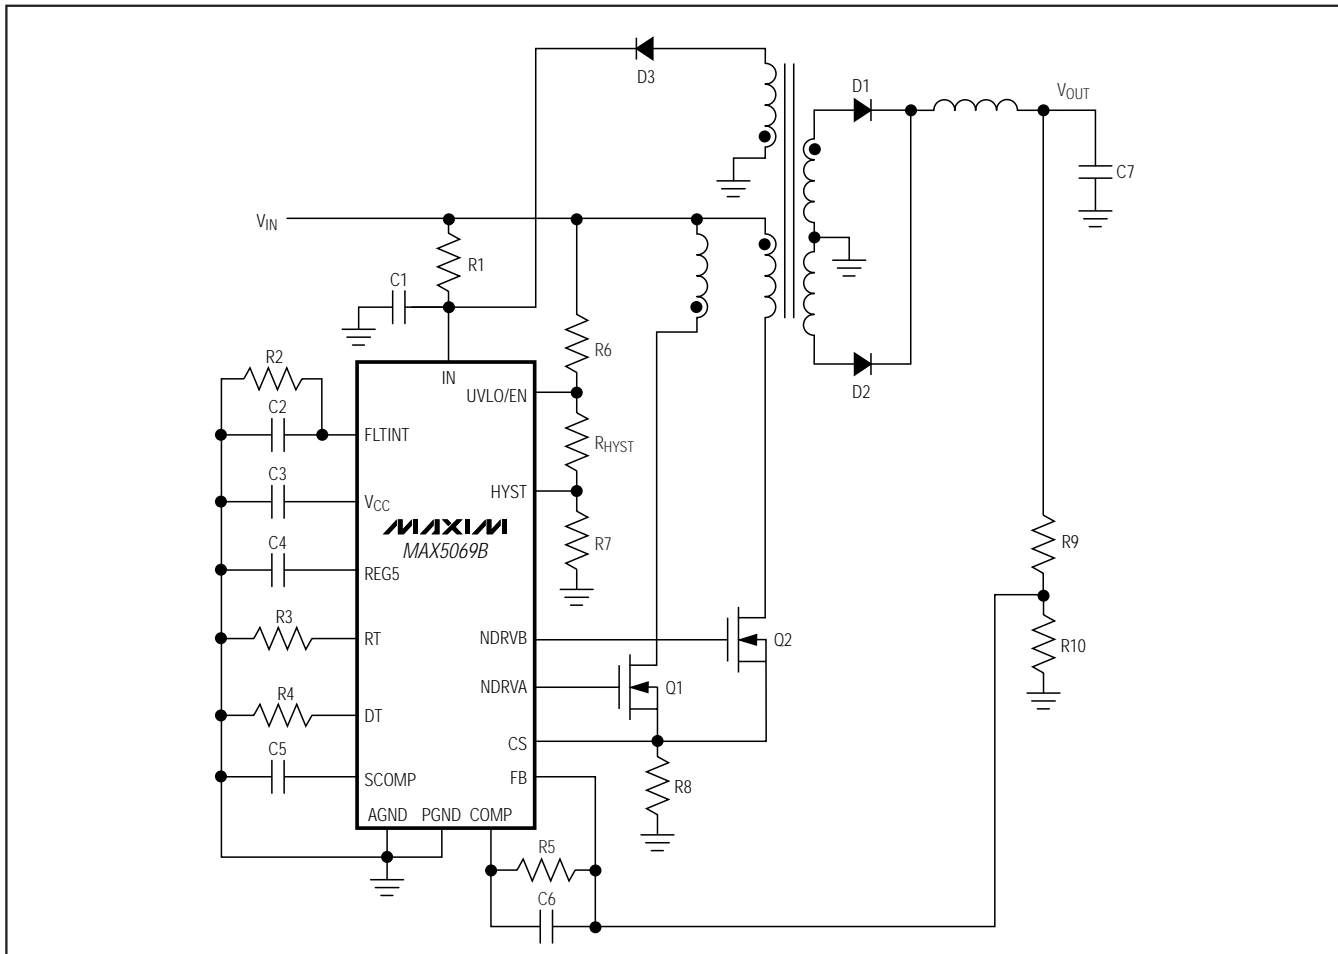
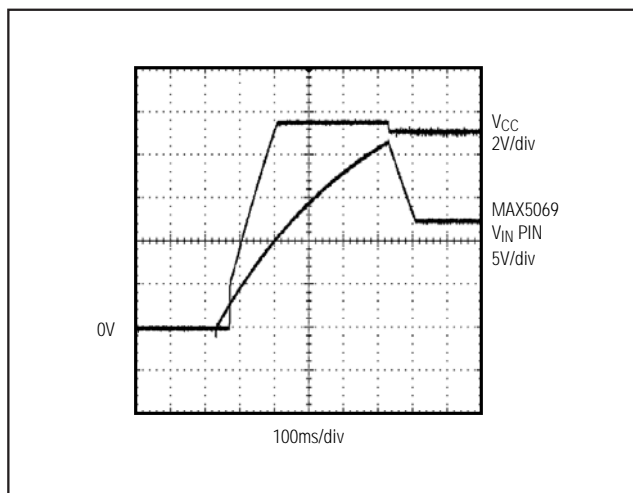

Figure 1. Nonisolated Power Supply with Programmable Input Supply Voltage
Figure 5.  $V_{IN}$  and  $V_{CC}$  During Startup When Using the MAX5069 in Bootstrapped Mode (See Figure 1)
**Note 2:** The MAX5069A/B are intended for use in universal-input power supplies. The internal clamp circuit is used to prevent the bootstrap capacitor ( $C_1$  in Figure 1) from charging to a voltage beyond the absolute maximum rating of the device when  $UVLO/EN$  is low. The maximum current to  $V_{IN}$  (hence to clamp) when  $UVLO$  is low (device is in shutdown) must be externally limited to 2mA. Clamp currents higher than 2mA may result in clamp voltages higher than 30V, thus exceeding the absolute maximum rating for  $V_{IN}$ . For the MAX5069C/D, do not exceed the 24V maximum operating voltage of the device.
Power supplies designed with the MAX5069A/B use a high-value startup resistor, R1, which charges a reservoir capacitor, C1 (Figure 1). During this initial period, while the voltage is less than the internal bootstrap UVLO threshold, the device typically consumes only 47μA of quiescent current. This low startup current and the large bootstrap UVLO hysteresis help to minimize the power dissipation across R1 even at the high end of the universal AC input voltage (265VAC).
Normally,  $V_{IN}$  is derived from the tertiary winding of the transformer. However, at startup there is no energy delivered through the transformer; hence, a special bootstrap sequence is required. Figure 5 shows the voltages on  $V_{IN}$  and  $V_{CC}$  during startup. Initially, both  $V_{IN}$  and  $V_{CC}$  are 0V. After the input voltage is applied, C1 charges through the startup resistor, R1, to an intermediate voltage (see Figure 1). At this point, the internal regulator begins charging C3 (see Figure 5). Only 47 $\mu$ A of the current supplied by R1 is used by the MAX5069A/B. The remaining input current charges C1 and C3. The charging of C3 stops when the  $V_{CC}$  voltage reaches approximately 9.5V. The voltage across C1 continues rising until it reaches the wake-up level of 23.6V. Once  $V_{IN}$  exceeds the bootstrap UVLO threshold, NDRVA/NDRVB begin switching the MOSFETs and energy is transferred to the secondary and tertiary outputs. If the voltage on the tertiary output builds to higher than 9.74V (the bootstrap UVLO lower threshold), startup ends and sustained operation commences.
The  $V_{IN}$  bypass capacitor, C1, supplies current immediately after wakeup (see Figure 1). The size of C1 and the connection configuration of the tertiary winding determine the number of cycles available for startup. Large values of C1 increase the startup time and also supply extra gate charge for more cycles during initial startup. If the value of C1 is too small,  $V_{IN}$  drops below 9.74V because NDRVA/NDRVB do not have enough time to switch and build up sufficient voltage across the tertiary output that powers the device. The device goes back into UVLO and does not start. Use low-leakage capacitors for C1 and C3.
The above startup method applies to a circuit similar to the one shown in Figure 1. In this circuit, the tertiary winding has the same phase as the secondary windings. Thus, the voltage on the tertiary winding at any given time is proportional to the output voltage. The minimum discharge time of C1 from 22V to 10V must be greater than the soft-start time (tss).
The MAX5069 includes an internal error amplifier that can regulate the output voltage in the case of a nonisolated power supply (Figure 1). Calculate the output voltage using the following equation: